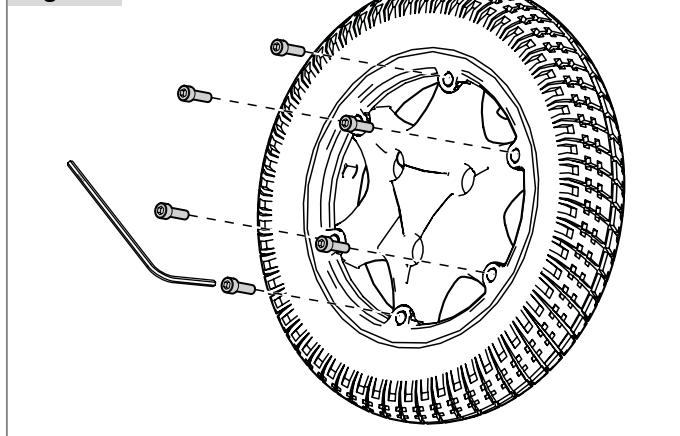

Fig. 8.6
- Lift the inner rim off the tyre wall (Fig. 8.6).